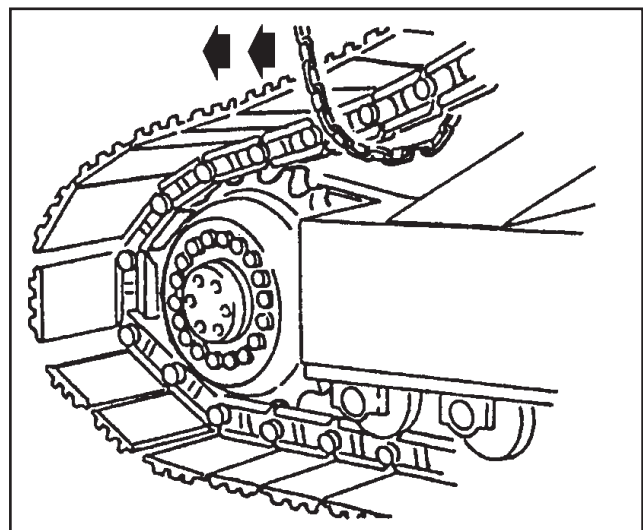

Fig. 3-11 Track Chain - removal
4. Remove the track chain in the direction of the sprocket (fig. 3-11).